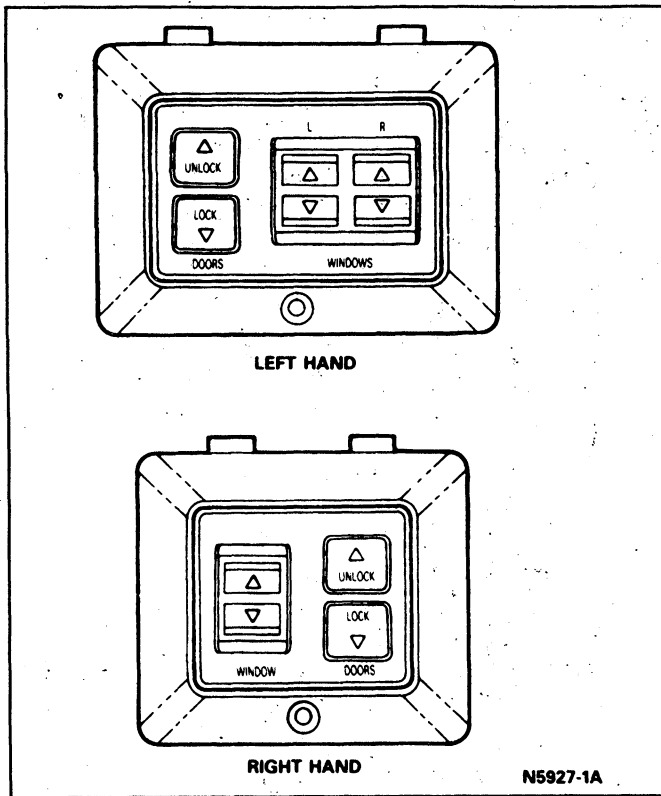

FIG. 7 Power Window Switches—E-150—E-350
1. To remove the power window switch, remove the bezel retaining screw (Fig. 7). Then, lift the bottom of the bezel from the door trim panel and remove the switch and bezel assembly.